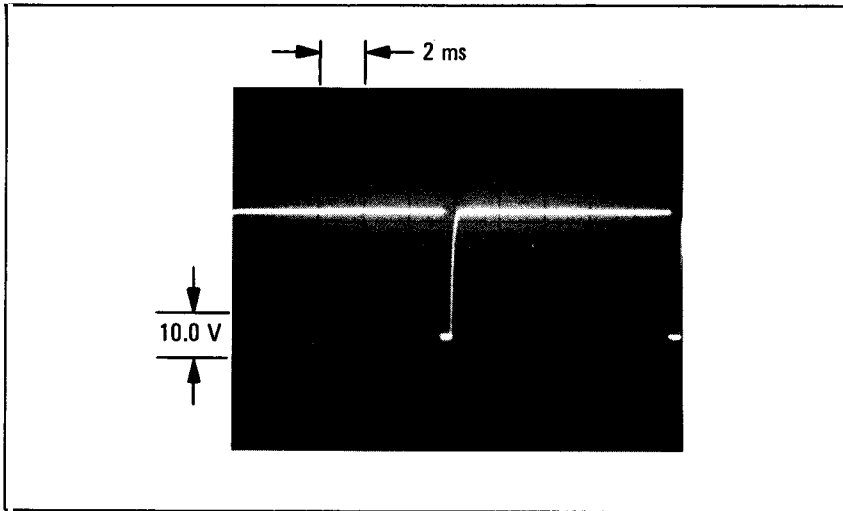

Figure 1. Oscilloscope Display of FM Integrator Sample and Hold Control (dc coupled to J2-Pin 3; internally triggered)
2. Verify that the waveform shown in Figure 1 is correct.